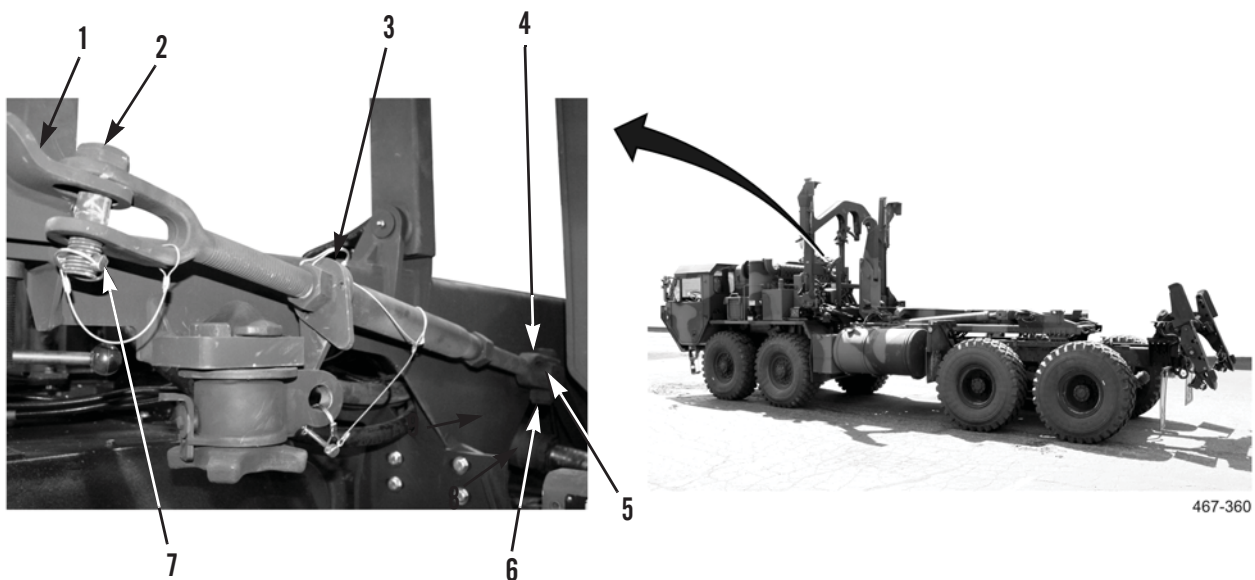

Figure 1. Transport Lock Adjustable Strut.
1. Remove clip (Figure 1, Item 7) from bolt (Figure 1, Item 2).
2. Remove bolt (Figure 1, Item 2) and transport lock adjustable strut (Figure 1, Item 3) from bracket (Figure 1, Item 1).
3. Remove nut (Figure 1, Item 6), bolt (Figure 1, Item 4), and transport lock adjustable strut (Figure 1, Item 3) from pin (Figure 1, Item 5).
2. Install transport lock adjustable strut (Figure 1, Item 3), bolt (Figure 1, Item 4), and nut (Figure 1, Item 6) on pin (Figure 1, Item 5).